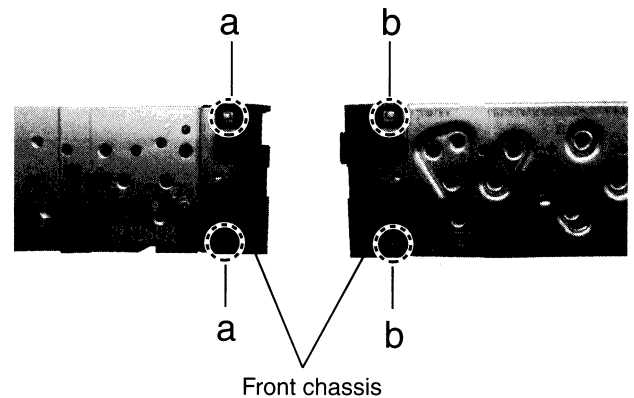

Fig.1
■ Removing the front chassis (See Fig.1)